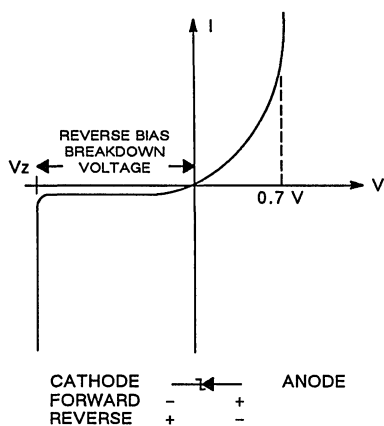

Figure A1. Zener Diode I-V Characteristic
**Zener References.** The least expensive reference devices are Zener diodes. Zener diodes produce a constant voltage drop when passing a constant current derived from a higher voltage. The active portion of a Zener diode is a reverse-biased p-n junction. In the forward-biased region, the diode acts much like a high-conductance silicon diode (Figure A1). In the reverse-biased region, little current flows if  $V$  is less than  $V_Z$ , the breakdown voltage. The small leakage current that flows is relatively insensitive to the magnitude of reverse voltage for fixed temperatures.